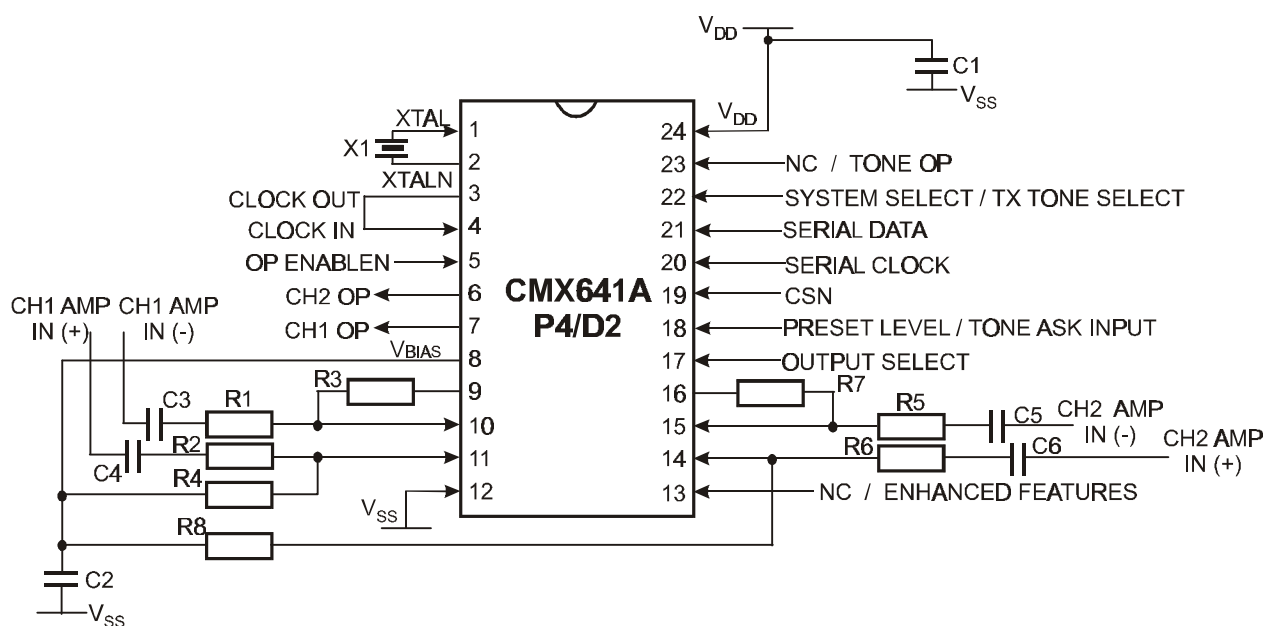

Figure 2 Recommended External Components
The input signals are input to the CMX641A via these amplifiers. In Controlled Sensitivity mode of the Fixed Bandwidth Operating state, or when in Enhanced Features Operating state, the external components shown in Figure 2 should be used. When used in the Fixed Sensitivity mode of the Fixed Bandwidth Operating state, external gain setting components should be calculated using Figure 6.
1. The recommended amplifier components (see figure 2) are employed.